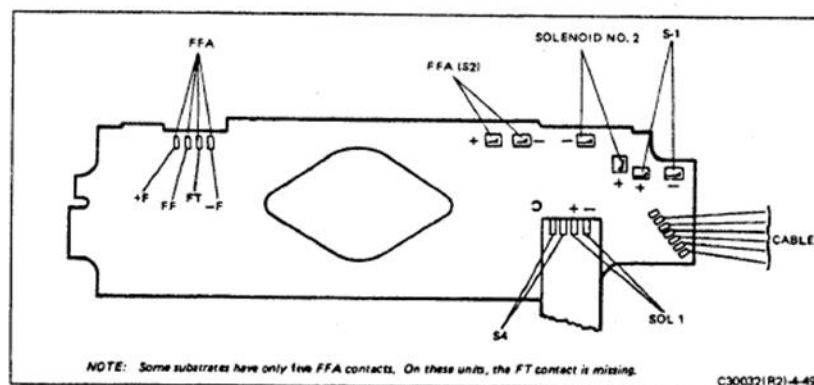
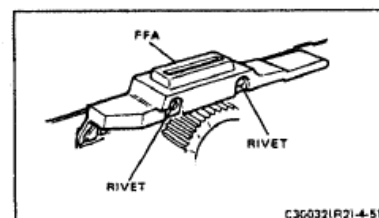

FIGURE 4-49 SUBSTRATE SOLDER CONNECTIONS
FIGURE 4-51 FFA RIVET LOCATIONS
- Unsolder the S1 and Solenoid #2 contacts from the substrate (Figure 4-49).
- Carefully dress the contacts over their pads on the substrate (refer again to Figure 4-49) and solder the solenoid #2 and S1 contacts. (When soldering the S1 contacts use care to prevent
- b. At the substrate, identify the six FFA contacts (see Figure 4-49). Unsolder the contacts as follows:
- (1) Apply heat to one contact at a time.
- (2) As heat is applied, use an Xacto knife to raise each connector. Use extreme care to prevent damaging the substrate.
- c. After unsoldering all six FFA contacts, press out the two rivets securing the socket to the casting (Figure 4-51). Carefully lift the socket assembly free of the casting, avoiding damage to the contacts.
- d. Using a miniature soldering iron (e.g., Weller W-TCP-L or equivalent) heat each of the connections on the substrate (refer again to Figure 4-49). With the point of an X-acto knife, gently lift the terminal up and away from the substrate. Repeat this for each of the connections on the substrate.